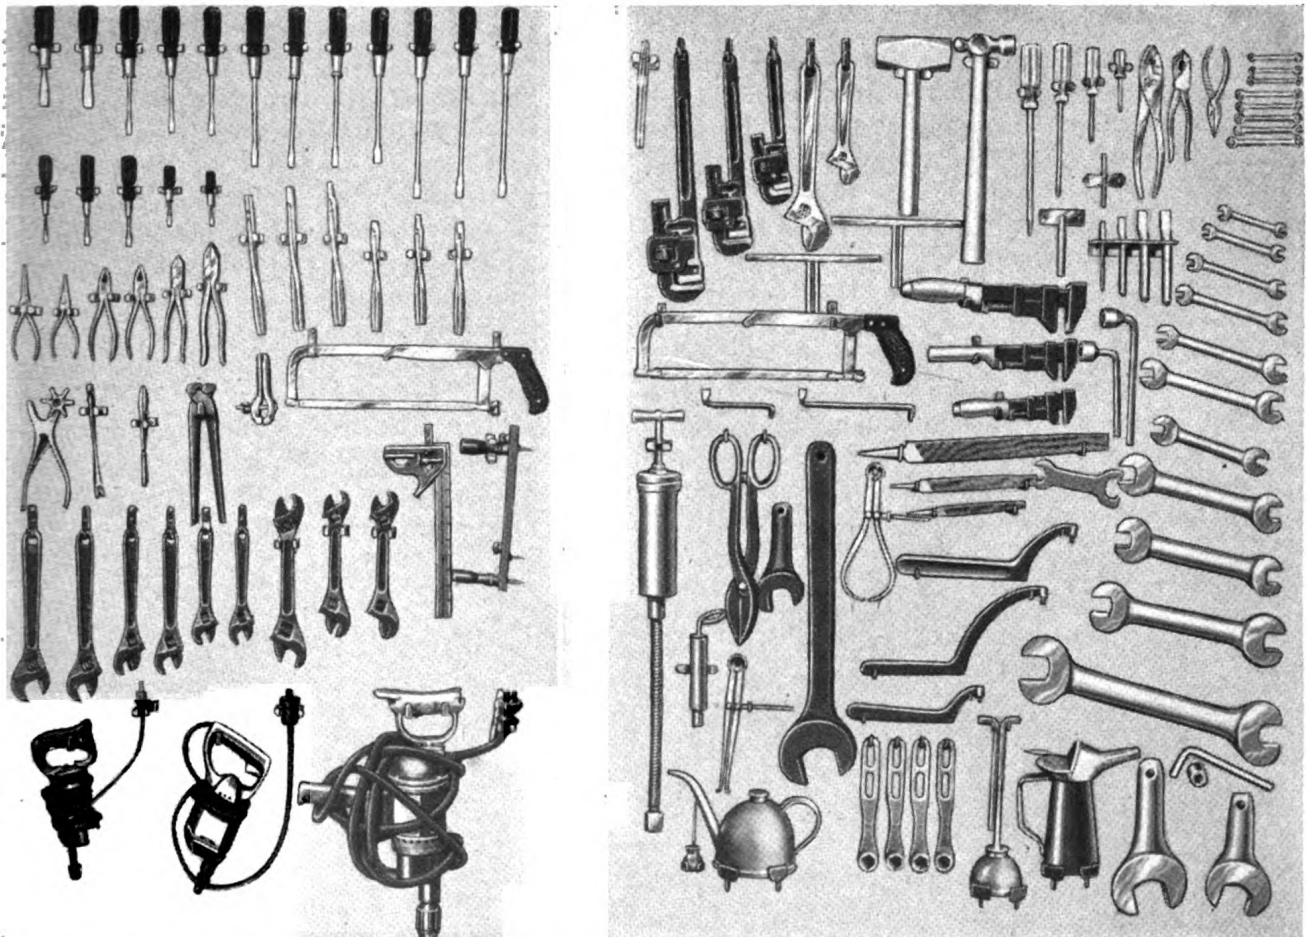

Figure 3. Tool boards. (Note use of brackets for mounting three-dimensional tools.)
(1) To determine the kind and number of tools required, review all record cards and note the tools needed for the operations listed. Examine all equipment for bolt, nut, and pipe-wrench sizes; note whether offset screw drivers, setscrew wrenches, punches, and chisels are needed.
(2) Provide operators with a work bench and vise.
(3) Before requisitioning tools that would be used only rarely, determine whether they can be borrowed as needed from other shops on the post. If they can be borrowed, enter the source on the front of the record card, under the step for which they are needed.
b. TOOL BOARDS. To keep tools instantly available and to insure against loss, install them on wood or metal tool boards (fig. 3).
(1) Plan tool boards so they can hold all tools, including odd-shaped or odd-sized tools such as extension cords, oilcans, grease guns, gaskets,